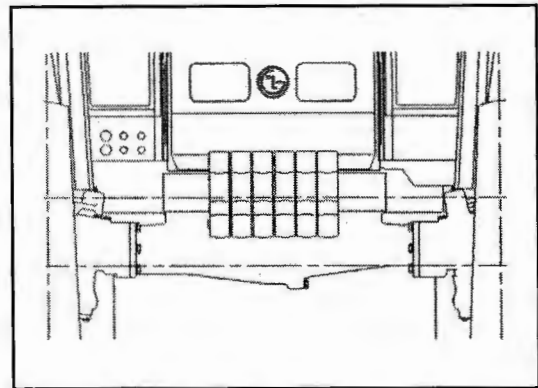

Fig. 32-2 - Leveling Front Axle
- Drain oil into a suitable container by removing the three drain plugs (1) and two air bleeding plugs (3).
- After all the oil has drained from the housing, install drain plugs (1).
- Remove oil level plug (2) and filler plug (4) and fill the housing through the filler hole until oil comes out of the oil level hole.
- Install the air bleeding plugs, oil level plugs and filler plug. (See Fig. 32-2 & 32-3).